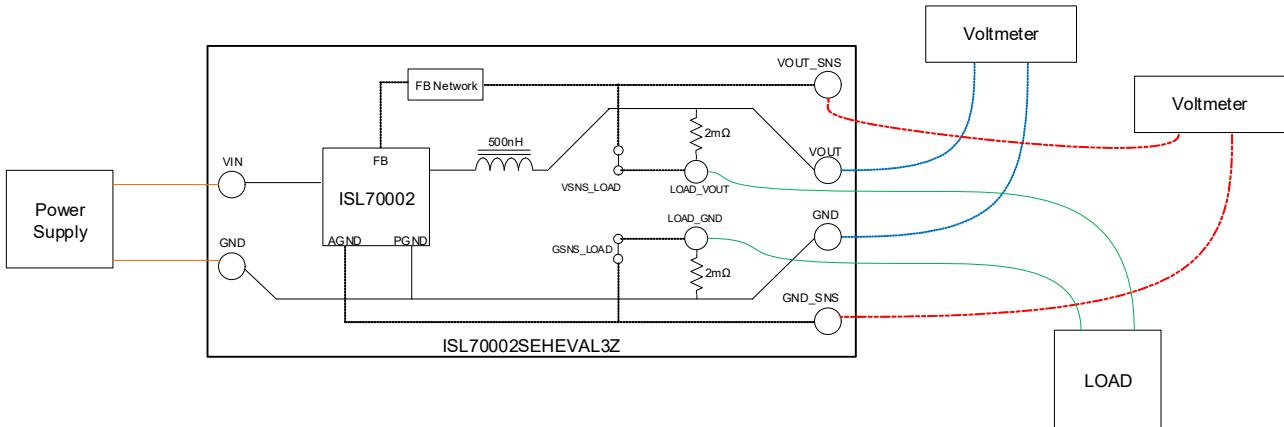

**Figure 2. Quick Start Diagram**
2. Study Figure 2 to see how to hook up the evaluation board.